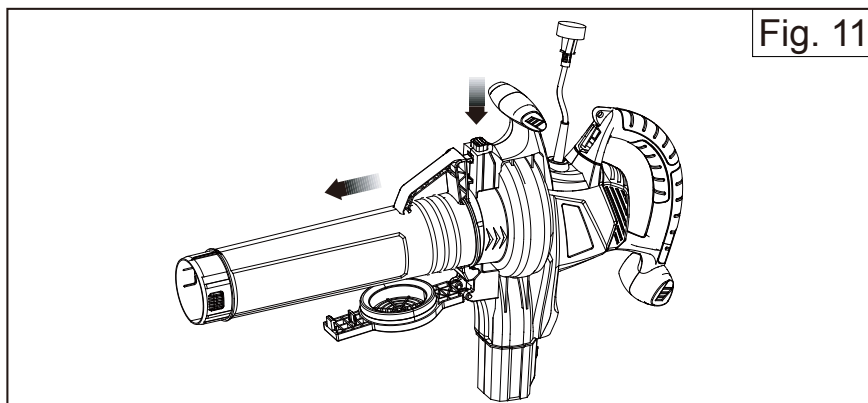

Fig. 11
5. To remove the vacuum tube, depress and hold the lock button then pivot the tube away from the lock button (Fig. 11).